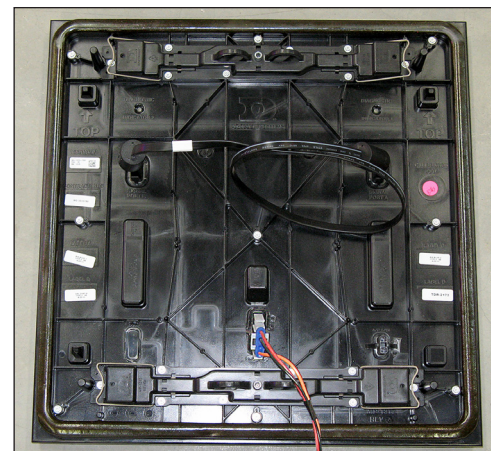

Figure 22: Module Self-Test
1. Attach a SATA cable to Port A and Port B on the module. Refer to **Figure 22**.